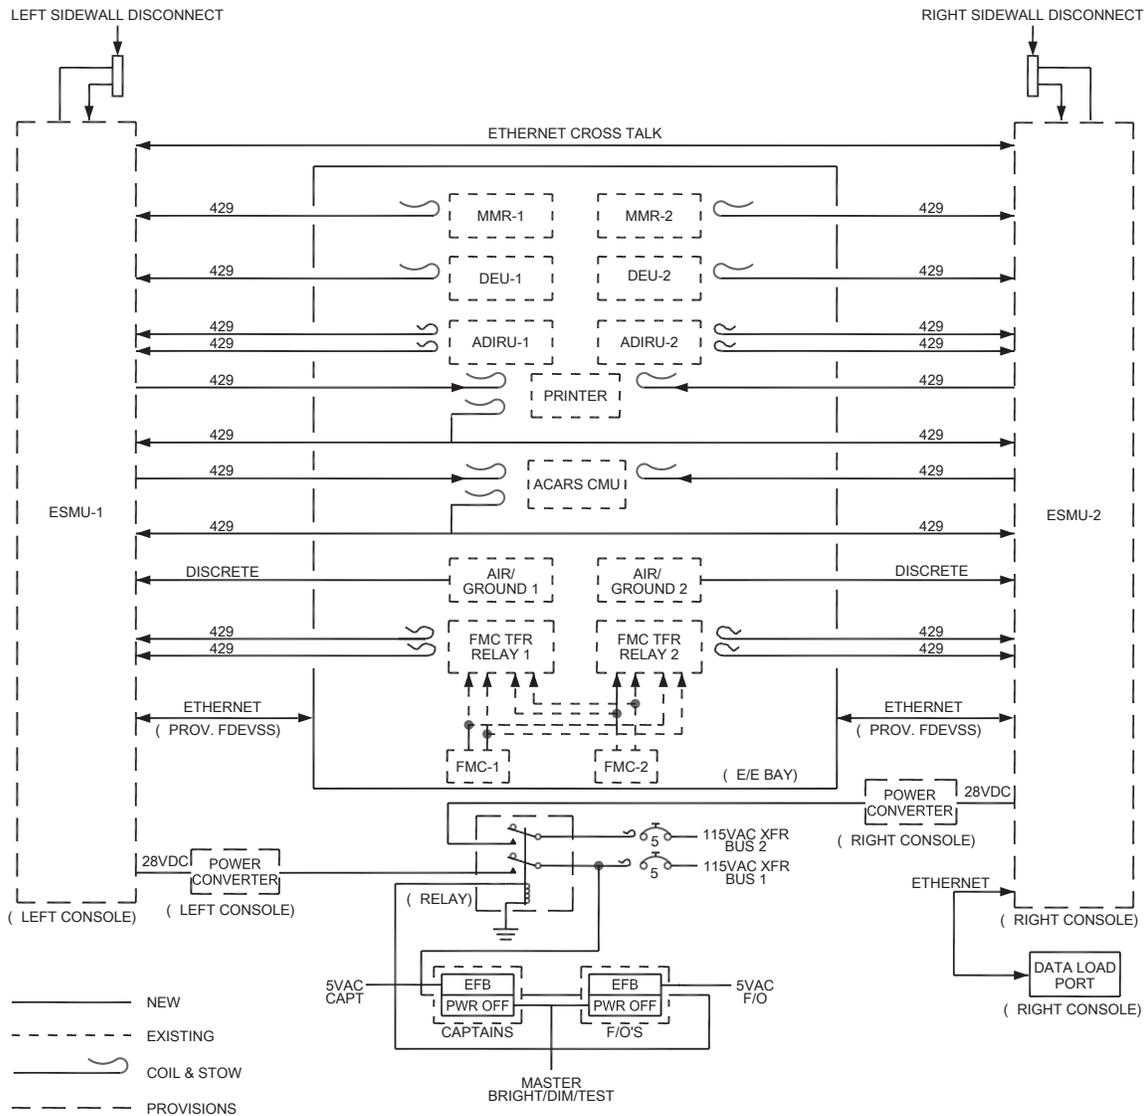

Figure 8:
- » The following electrical changes are made for Configuration 1. See block diagram Figure 8.
- » Captain's ESMU discrettes for EDU left/right position, parity and aircraft model will be connected to aircraft ground. Discrettes not shown in Figure 8.
- » First officer's ESMU discrettes for EDU left/right position, parity and aircraft model will be connected to aircraft ground. Discrettes not shown in Figure 8.